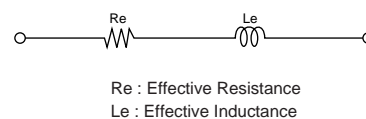

Fig. 2-4 Equivalent Circuit of CERALOCK® in the Frequency Band  $F_r \leq F \leq F_a$
Considering the limited frequency range of  $F_r \leq F \leq F_a$ , the impedance is given as  $Z = R_e + j\omega L_e$  ( $L_e \geq 0$ ) as shown in Fig. 2-4, and CERALOCK® should work as an inductance  $L_e$  (H) having the loss  $R_e$  ( $\Omega$ ).